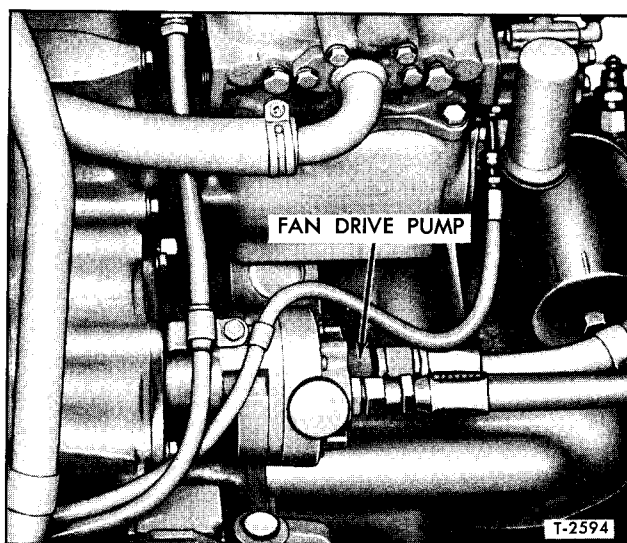

Figure 17—Fan Drive Pump Installed
2. While supporting pump (fig. 17), remove